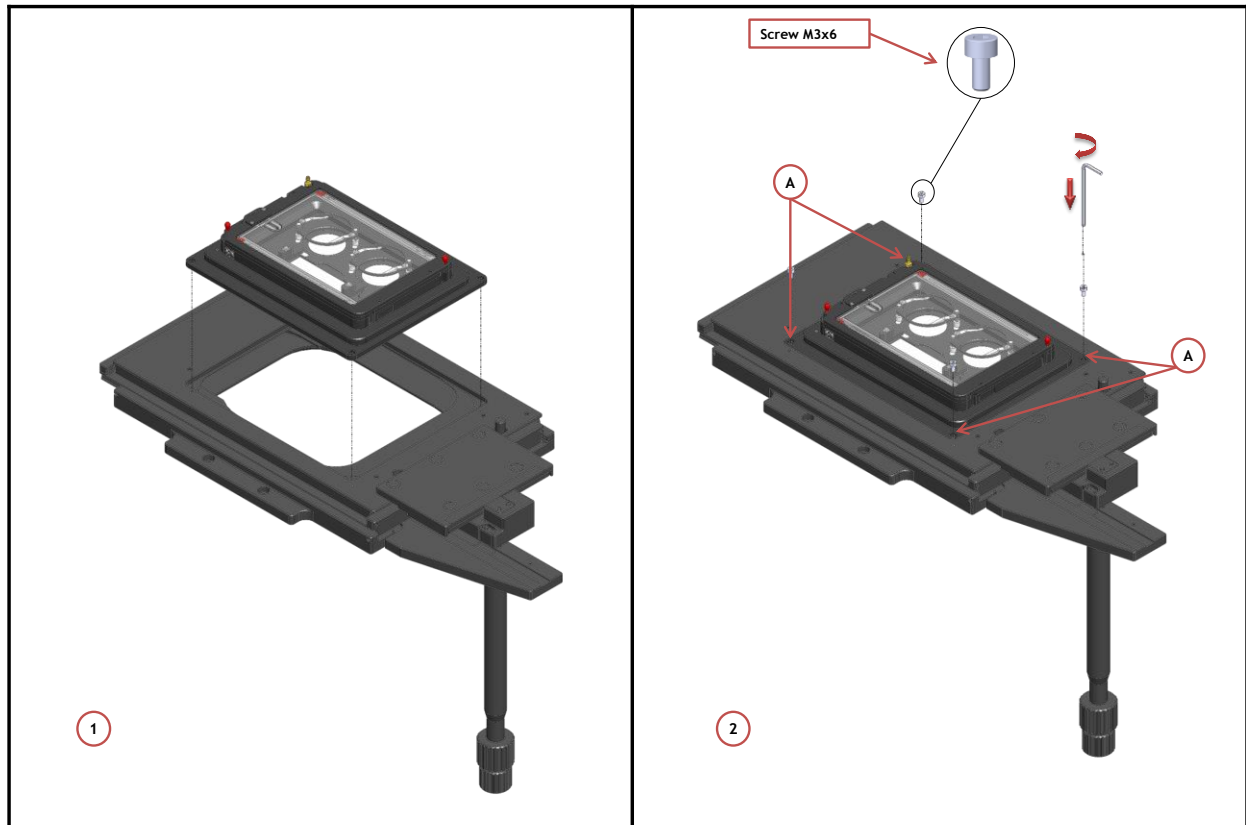

Figure 21. How to fix the H301-OLYMPUS-IX3-SVR to the XY stage.
Once you have assembled the chamber with adapter you can place it on the XY stage, following the steps shown in Figure 21.
1. Place the adapter on the stage (See Image 1 of Figure 21).
2. Follow the instructions shown in Image 2 of Figure 21 for placing socket head cap screws; use the provided Allen wrench for tightening the socket head cap screws and fastening the adapter on the stage. Screws housings are indicated with letter A in Image 2 of Figure 21.